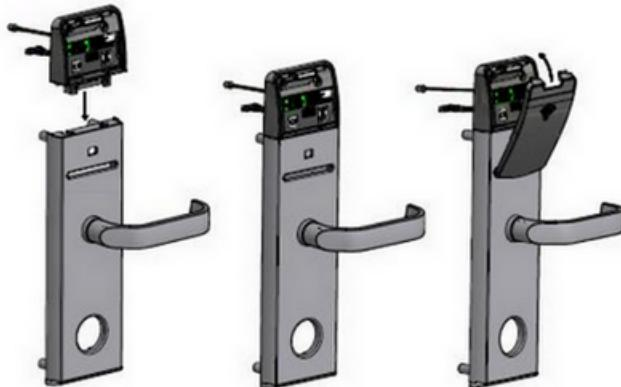

Figure 16
17. The RFID module is normally assembled with the outside escutcheon at delivery, but if it is not (e.g. if the RFID module has been ordered as a spare part), snap the RFID module (**1**) in place on top of the outside escutcheon and fasten it with the screw (pos **2** in section 3.1.3) in the front; see Figure 16. An additional mounting hole is available in the top left corner of the LCU (*lock controller unit*), if this is needed. **Note:** For upgrades, the LCU must be removed and the upgrade plate (mag:**5**) be mounted; see details in step 20.